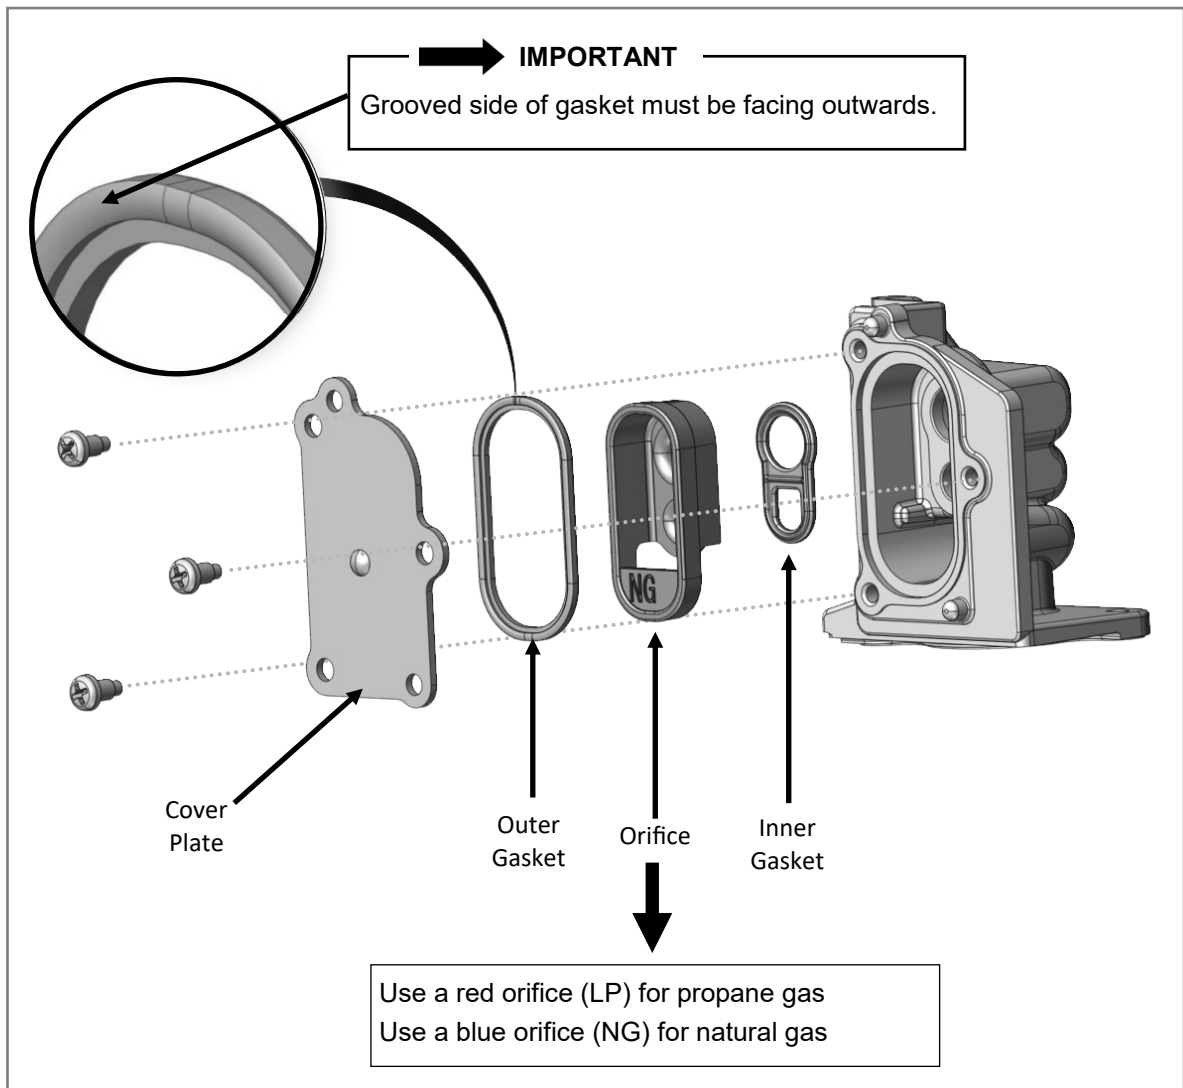

Figure 2. Orifice Components
6. Remove the plastic orifice from the housing (Figure 2).
7. Install the new inner and outer gaskets onto the new orifice (Figure 2).
8. Install the new orifice into the housing. Check the gas type displayed on the orifice: red orifice is propane gas (LP); blue orifice is natural gas (NG).
9. Confirm that the gasket is correctly in place: **The grooved side of the gasket must be facing outwards** (Figure 2).